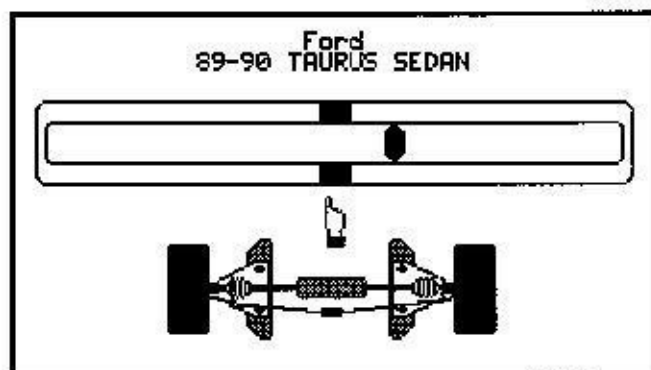

Figure 2-24
5. Wait for the CCD-1500 to take readings. When complete, the screen shown in Figure 2-24 will appear in the display.